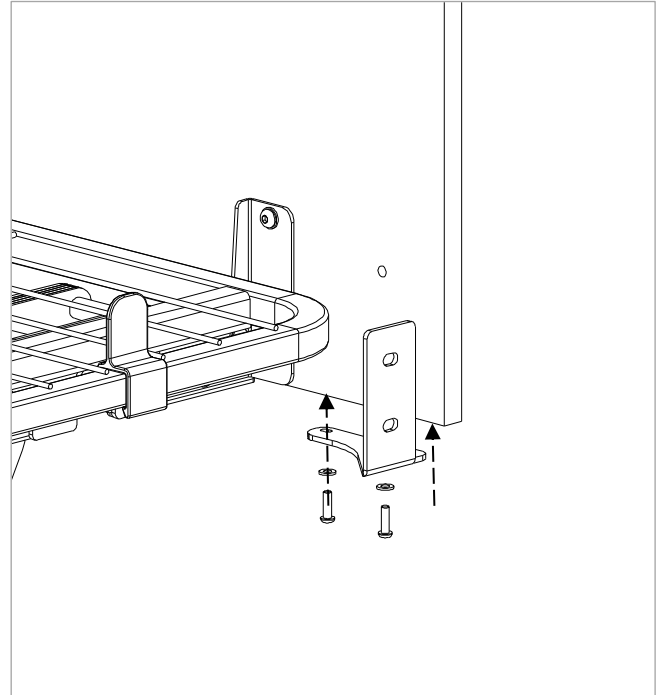

Figure 9.3
5. Fit the four side panel end brackets to the bottom edge of the head and footboards with the M6 x 20mm bolts and washers as shown in Figure 9.3. Leave the bolts slightly loose.